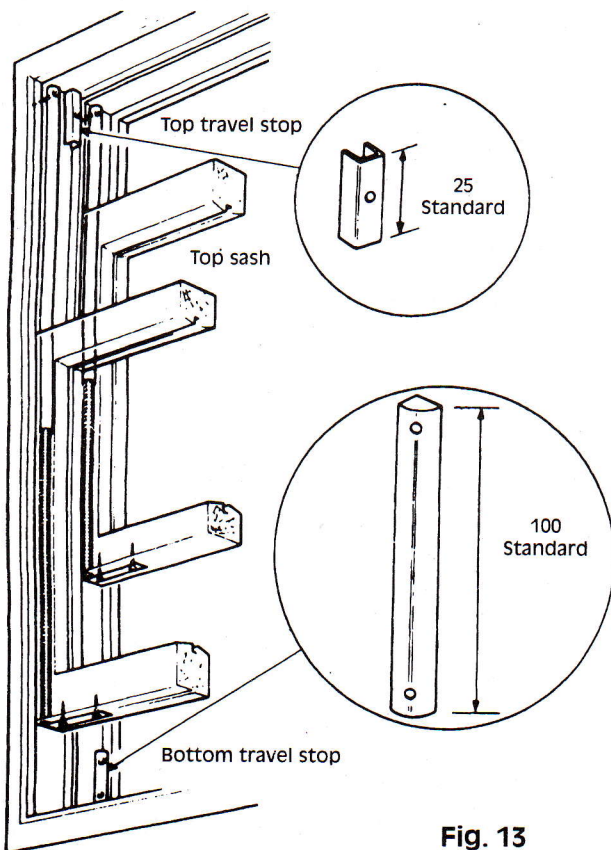

Fig. 13
- 4** Fix travel stops provided, the shorter one at the top of the bottom sash run, see Fig. 13.